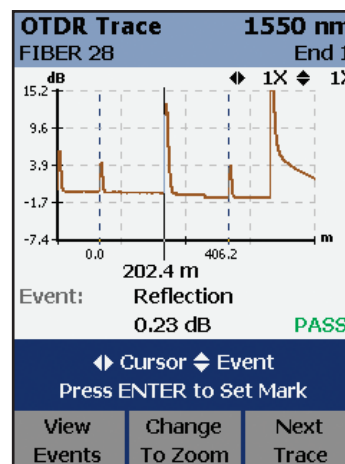
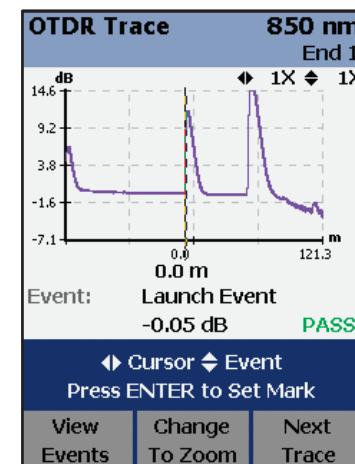

Figure 18 – Trace screenshot on the DTX Compact OTDR
Figure 19 – "Pass" trace screenshot on the DTX Compact OTDR
- Evidence that every component in a fiber optic cabling system was properly installed. See Pass result at 1550nm in figure 18 and at 850nm in figure 19